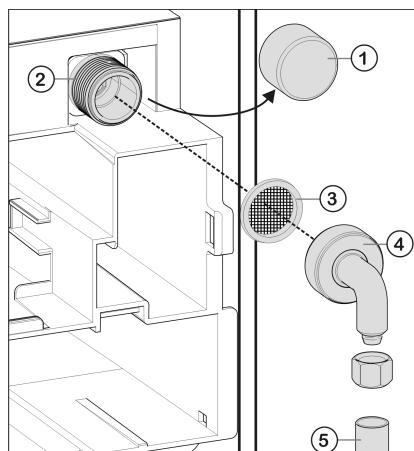

Fig. 32
- Remove the cap Fig. 32 (1) from the solenoid valve Fig. 32 (2).
- Ensure that the gasket Fig. 32 (3) is inserted in the elbow connection Fig. 32 (4) supplied.
- Connect the elbow adapter Fig. 32 (4) to the solenoid valve Fig. 32 (2) and tighten with an open-ended wrench, for example.
- Connect the domestic water supply Fig. 32 (5) (e.g. copper pipe) to the elbow connector Fig. 32 (4).